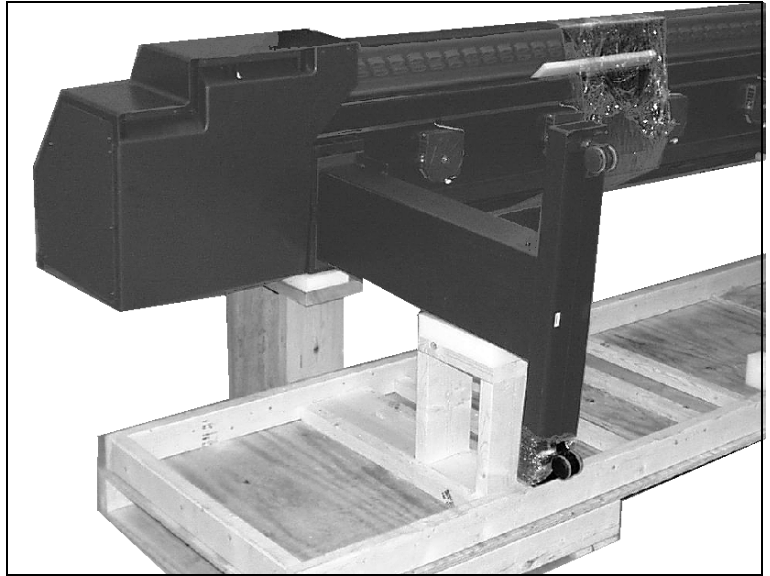

Fig. 1-6. Assemble the printer module and stand
9. Gently tip the assembled stand on its back, and set it down on top of the shipping supports as shown in Fig. 1-6.